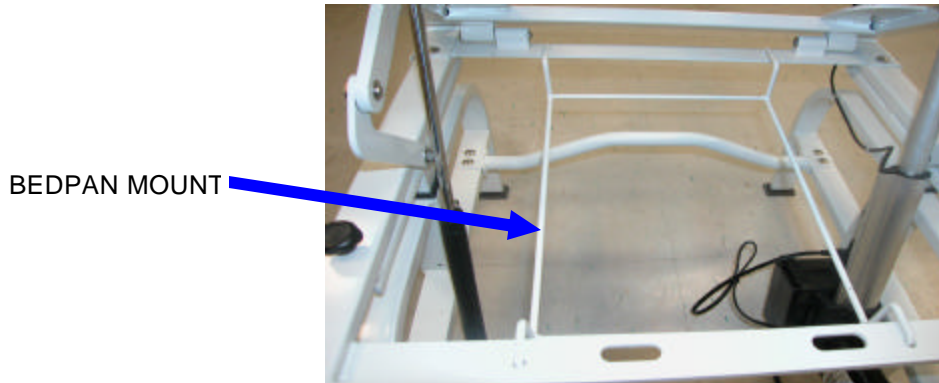

Figure M-9. Bedpan Mount
- b. Place the bedpan mount into the mounting position on the frame with the longer hooks forward as shown in Figure M-9.